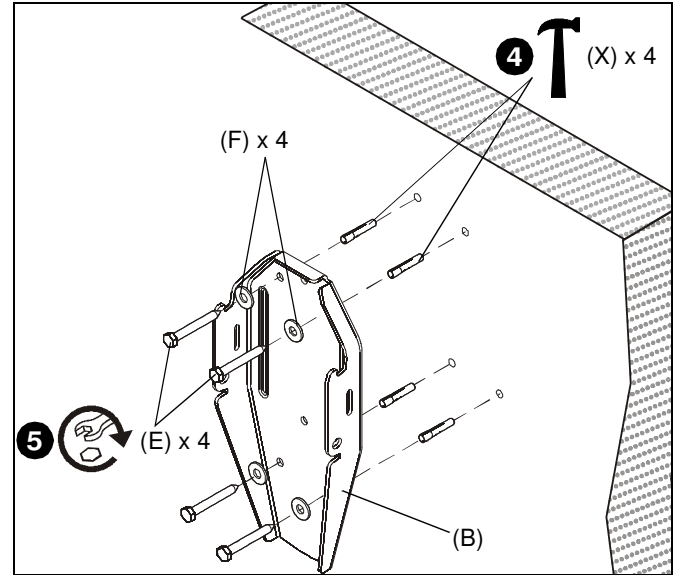

Figure 2
4. Install four concrete anchors (X) into drilled holes. (See Figure 2)
5. Install four 5/16 x 2-1/2" hex head lag screws (E) through four 5/16" washers (F), outer holes of wall bracket (B) and into concrete anchors (X). (See Figure 2)